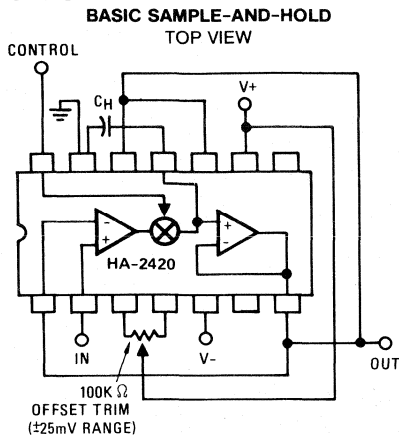

FIGURE 6.
The offset voltage of the HA-2420/2425 may be adjusted using a $100\text{k}\Omega$ trim pot, as shown in Figure 6. The recommended adjustment procedure is:
- Figure 6 shows a typical unity gain circuit, with Offset Zeroing. All of the other normal op amp feedback configurations may be used with the HA-2420/2425. The input amplifier may be used as a gated amplifier by utilizing Pin 11 as the output. This amplifier has excellent drive capabilities along with exceptionally low switch leakage.